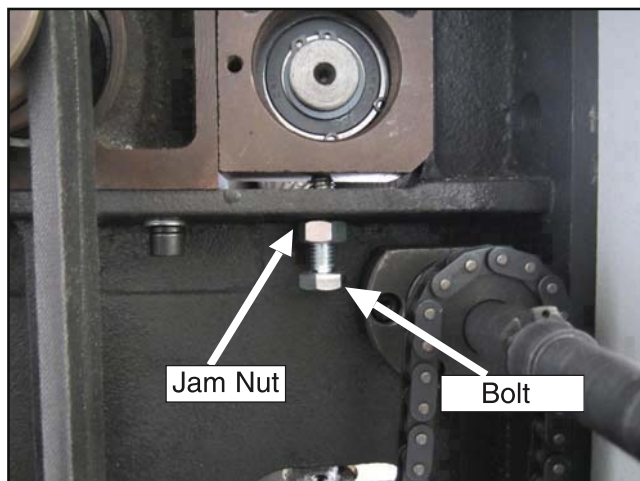

Figure 55. Infeed jam nut and bolt (left side shown).
4. Adjust the height of the infeed roller on the same side as the Rotacator to the specification given at the beginning of this procedure, using the zero setting of the Rotacator as a reference point. **Figure 55** shows the jam nut and bolt for adjusting the roller height.
9. Loosen the infeed roller jam nut and turn the bolt (see **Figure 55**) on each end of the infeed roller to raise it above the wood block.